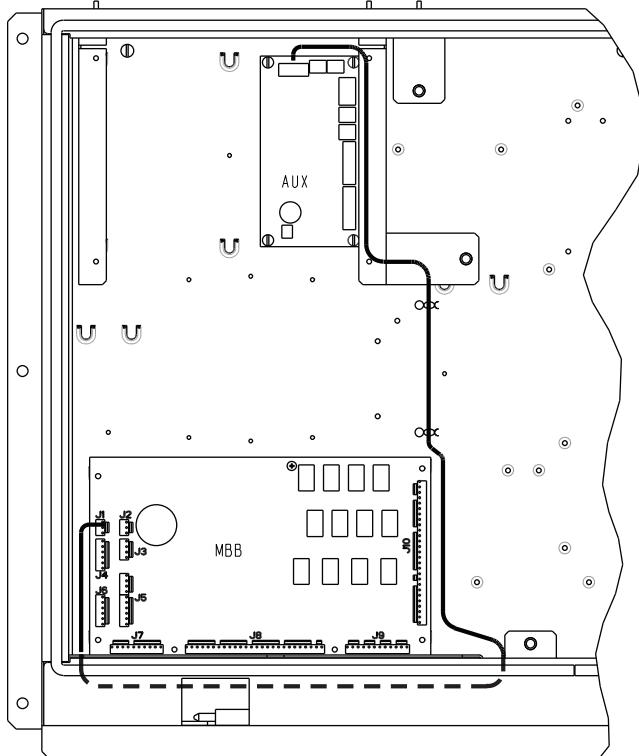

Fig. 10 — AUX Board Installation Location — 38APD,S025-030 Units
7. If the unit already has an AUX board installed, skip to Step 9. Install AUX board (Item 14) using 4 AC41AB100 screws (Item 16) provided. See Fig. 10. Set DIP switch 2, 5, and 7 = ON. See Fig. 2.